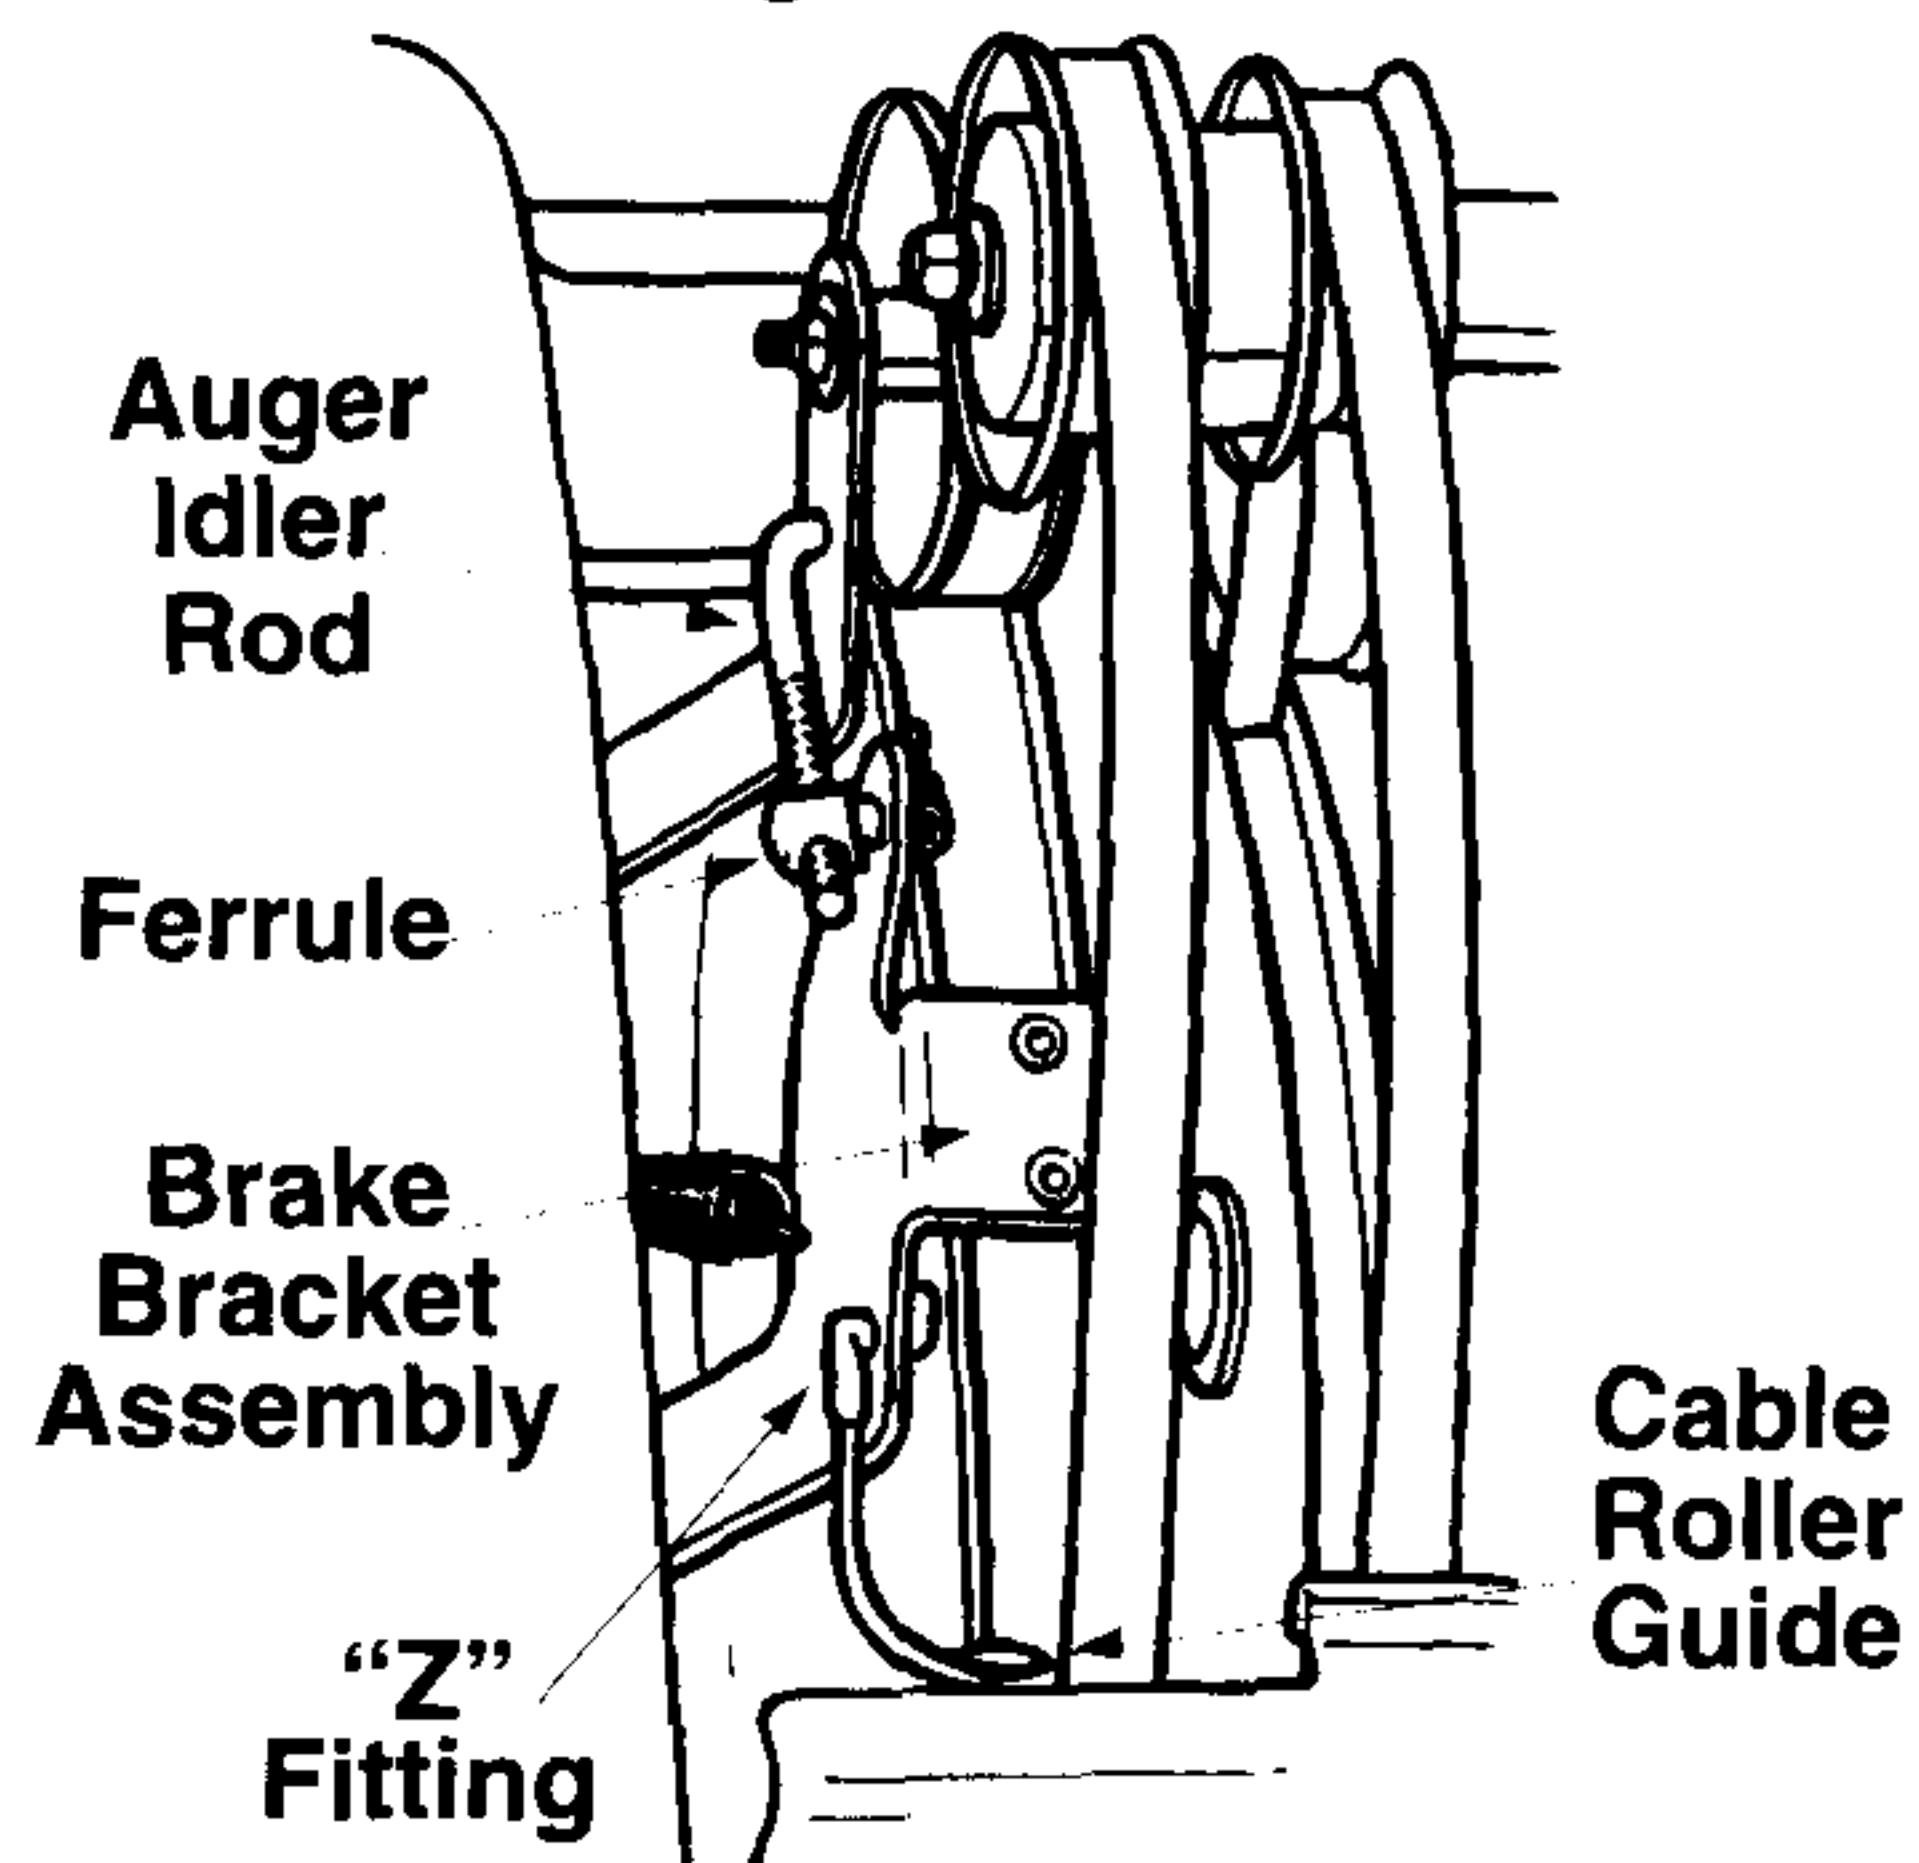

Figure 19
4. Remove the cotter pin and washer from the ferrule in order to disconnect the auger idler rod from the brake bracket assembly as shown in Figure 19.
5. Slip the auger drive belt (the front belt) off the engine pulley. Refer to Figure 19.
6. Attach the "Z" fitting of the cable into the brake bracket assembly. See Figure 19.